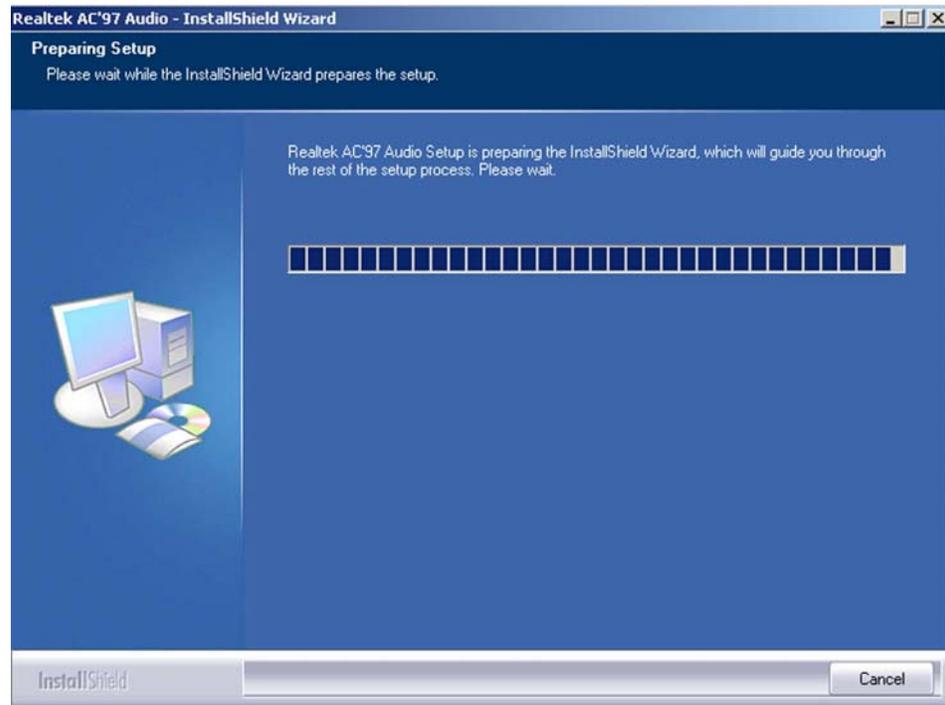

Figure 7-13: Audio Driver Setup Preparation
Step 5: The RealTek Audio Setup prepares the install shield to guide you through the rest of the setup process. See **Figure 7-13**.